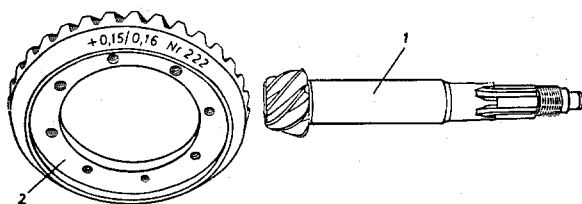

Fig. 35 — 4/27
73. Screw the right threaded ring three threads into the rear axle housing. Then use Assembly Arbor 180 589 00 39 to press in the outer race of the taper roller bearing (23) until it lies against the threaded ring (see Fig. 35 — 4/21).
specified amount of backlash must be obtained by adjustment. The installation dimensions are stamped on the rear face of the ring gear, the first figures indicating the clearances between the gears and the second figures indicating the amount of backlash required (Fig. 35 — 4/27).